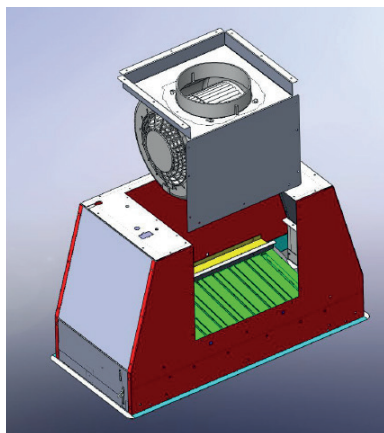

FIG.11
- › Take the metal support and motor out (Fig.11).